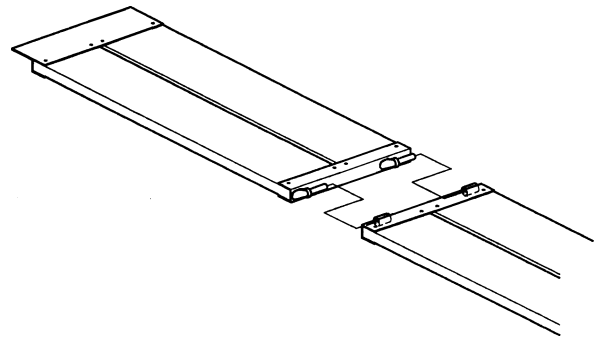

Fig.6-17 Anchor ramp
4. Mount the anchor ramp (fig.6-17) to the outriggers.